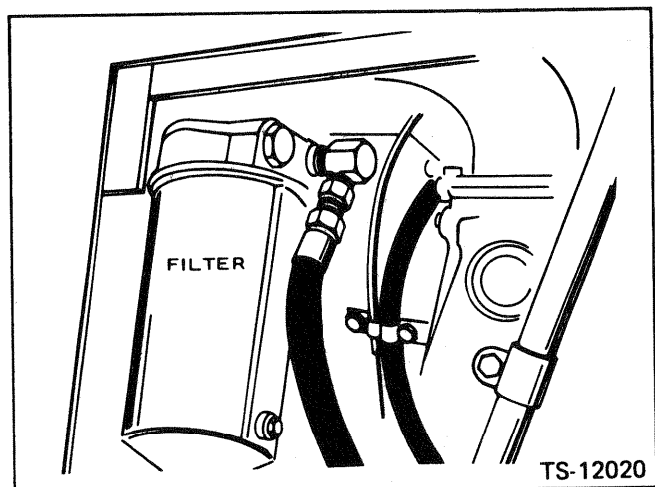

Fig. 9-2 Filter — Transmission and Torque Converter (G.M.)
5. Replace the element in the transmission and torque converter filter assembly. (See Fig. 9-2 & 9-3 for the position of the filter assembly.) thoroughly clean the filter case and base casting before installing a new element. Use a new gasket in the base casting and tighten the center bolt to 30 ft. lbs. torque.